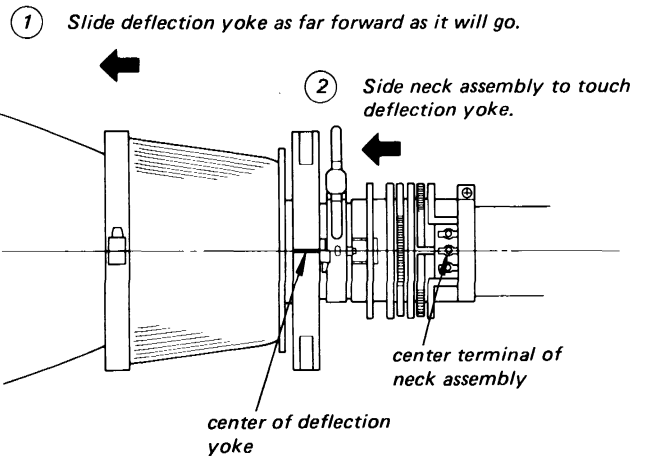

Fig. 3-27
- (3) Tighten the red deflection yoke screw in position.
- (4) Position the red neck assembly as shown in Fig. 3-27, and tighten the neck assembly screw in position.